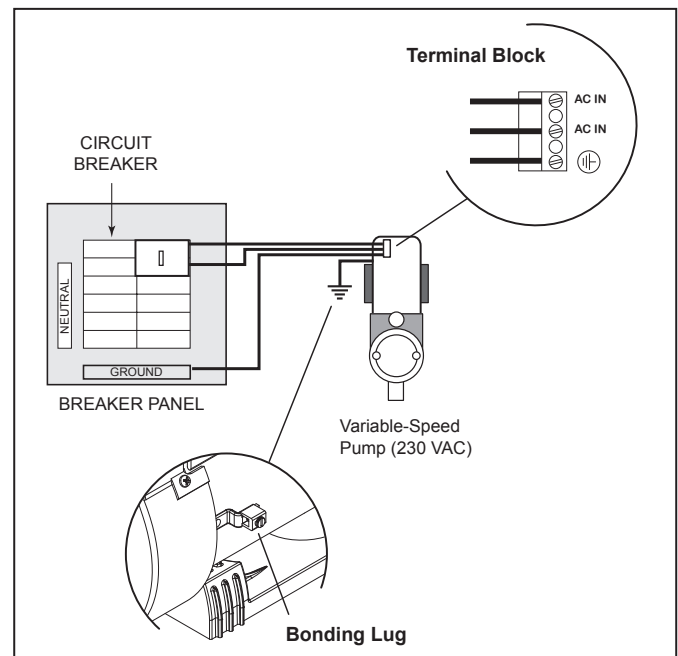

Figure 8. Bonding the Motor
- Bond the motor using the provided external lug. See Figure 8.